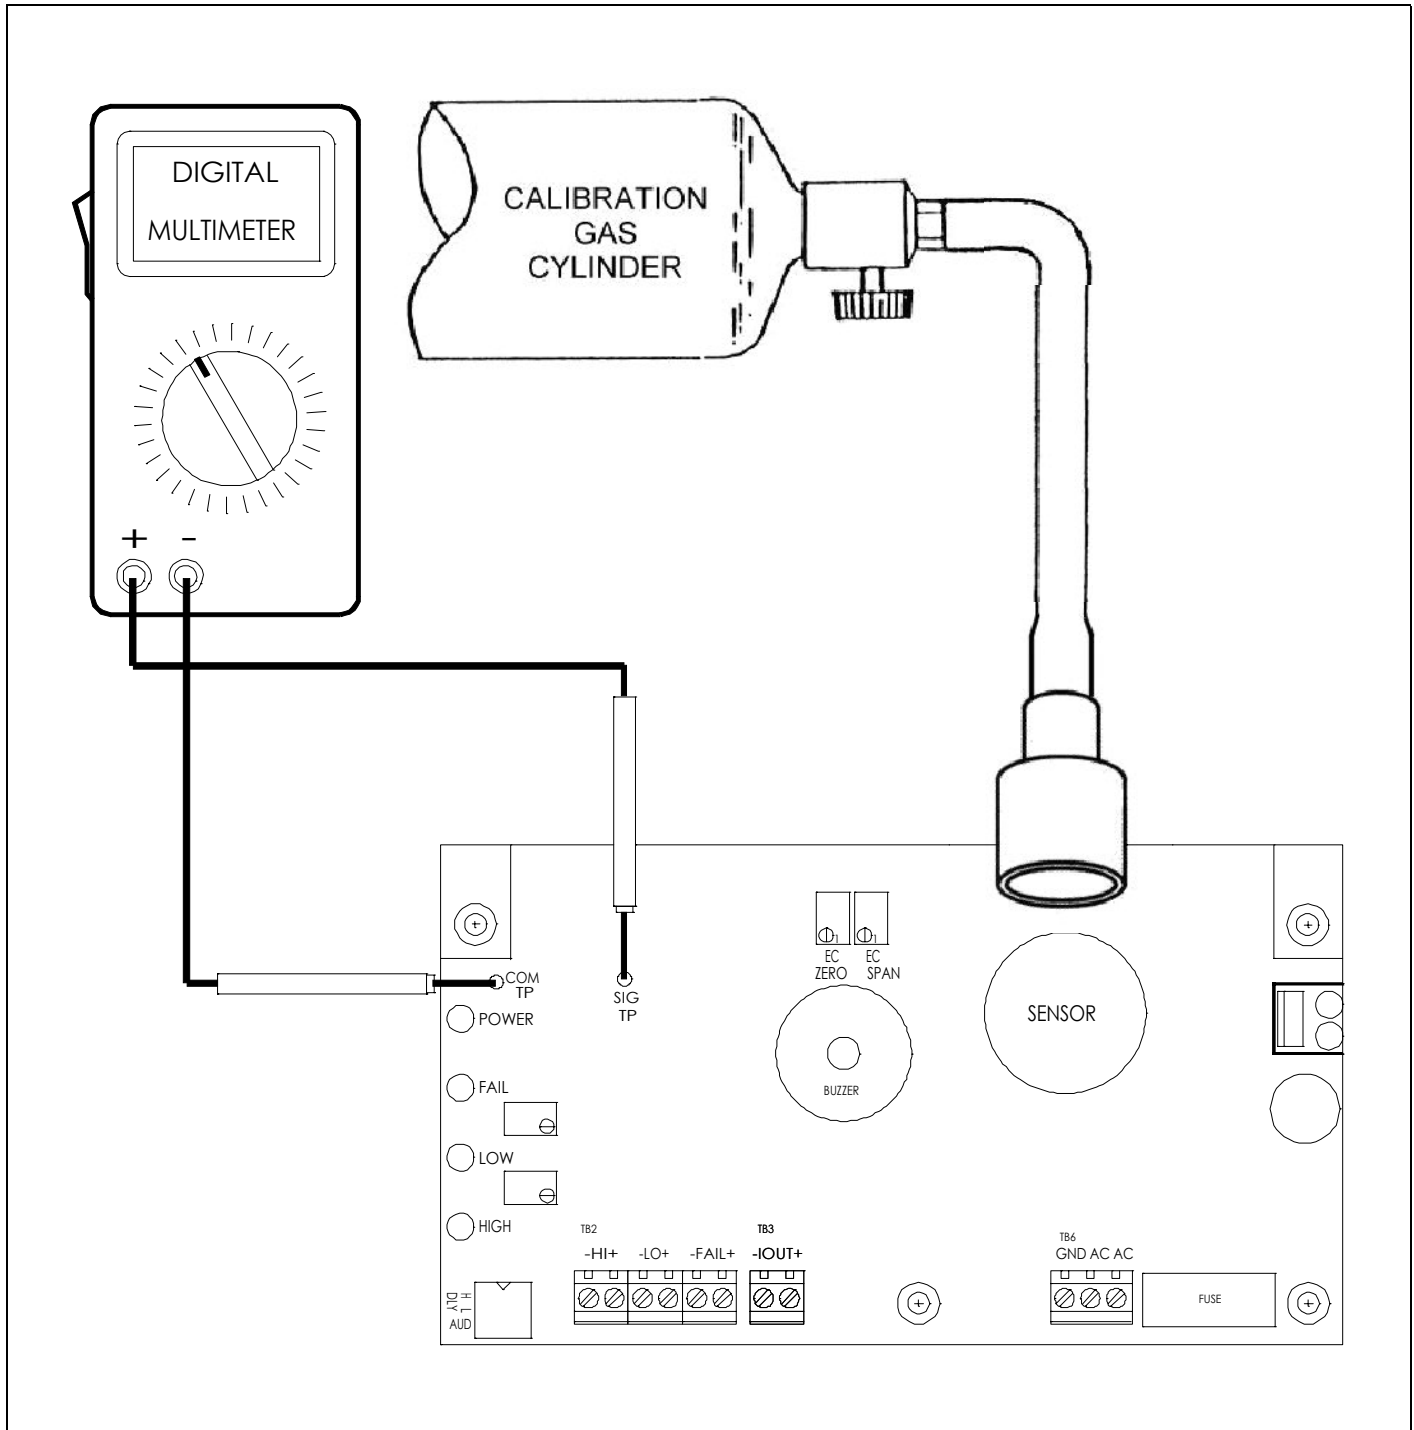

Figure 6: Test point locations
Refer to Figure 6 to perform the following procedure
- 4) For accurate calibration, ensure that the sensor is in clean air and allow a few minutes before adjusting the zero setting. Place the calibration adapter onto the sensor. Open the valve by turning it fully counter-clockwise to start the flow of gas and proceed with calibration. When this procedure is successfully completed, shut off the valve by turning it fully clockwise to stop the flow of gas. Adjust the Zero trimmer for a stabilized reading of 0.00 VDC measured at the test points (see Figure 6).
If required, calibration kits are available from AMC. Each kit consists of the following items (as shown in Figure 6):